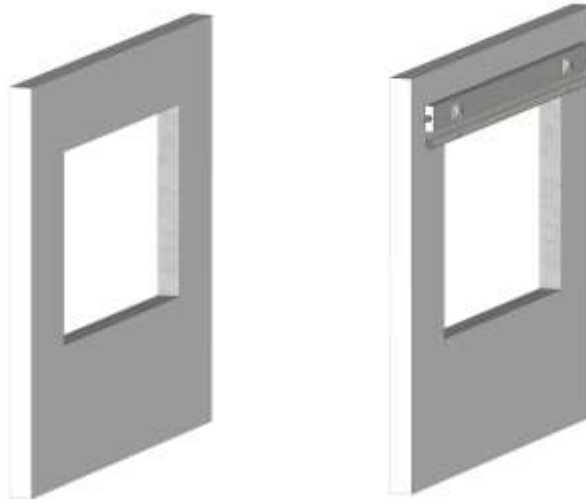

figure 1. "LPS" Installation location
Step 1: The "LPS" should be installed above the open area as shown in Figure 1.